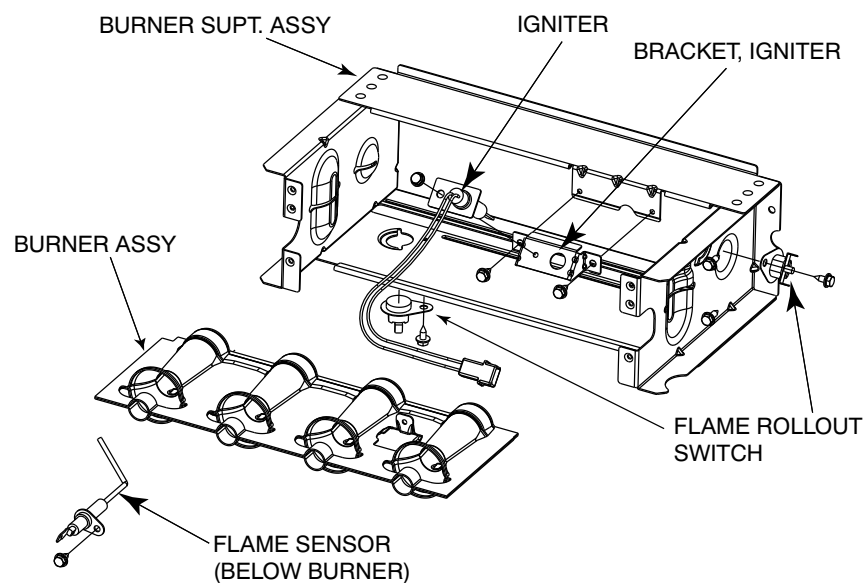

Fig. 63 - Burner Assembly
6. Remove screws attaching burner assembly to cell panel. See Fig. 63.